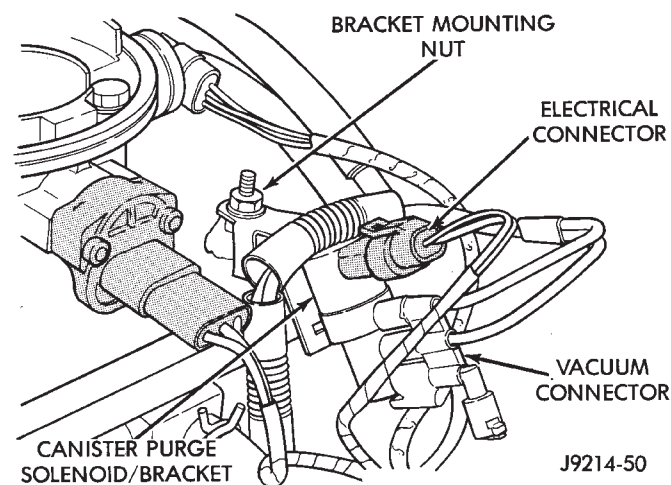

Fig. 13 EVAP Canister Purge Solenoid—5.2L Engine
- (1) Remove air duct at throttle body.
- (2) Disconnect wiring connector at solenoid (Fig. 13).
- (3) Disconnect vacuum harness at solenoid (Fig. 13).